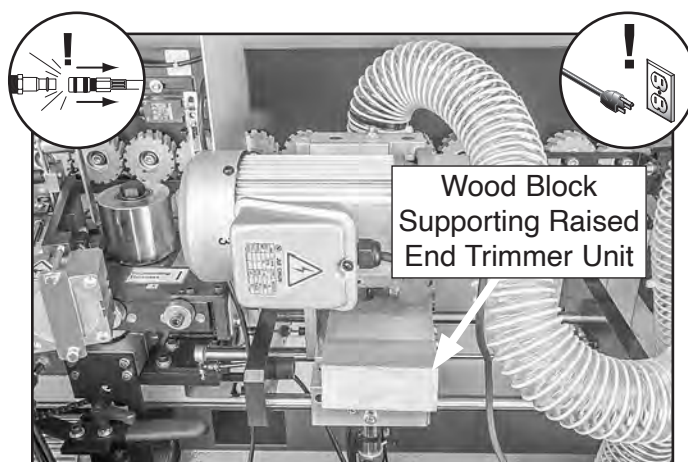

Figure 102. End trimmer unit raised and supported with wood block for access to blades.
3. Manually raise end trimmer unit and support it with wood block for best access to blades (see **Figure 102**).